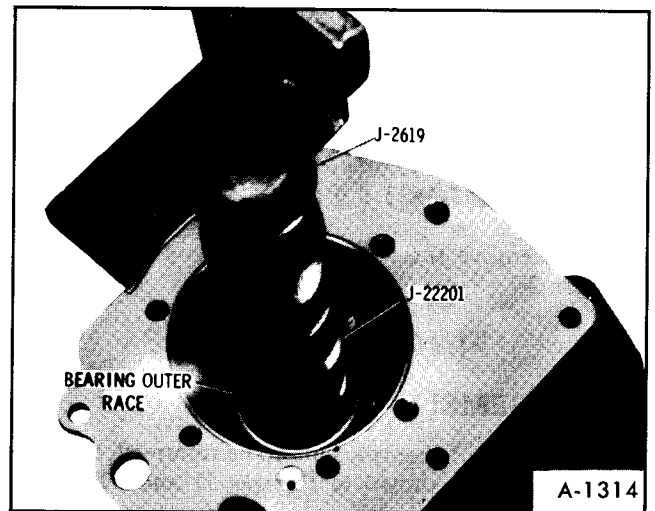

Figure 26—Removing Pinion Front Bearing Outer Race
13. Install Tool J-22201 on Slide Hammer J-2619. Position Tool J-22201 as shown in Figure 26, and tighten screw. Remove pinion front bearing outer race.